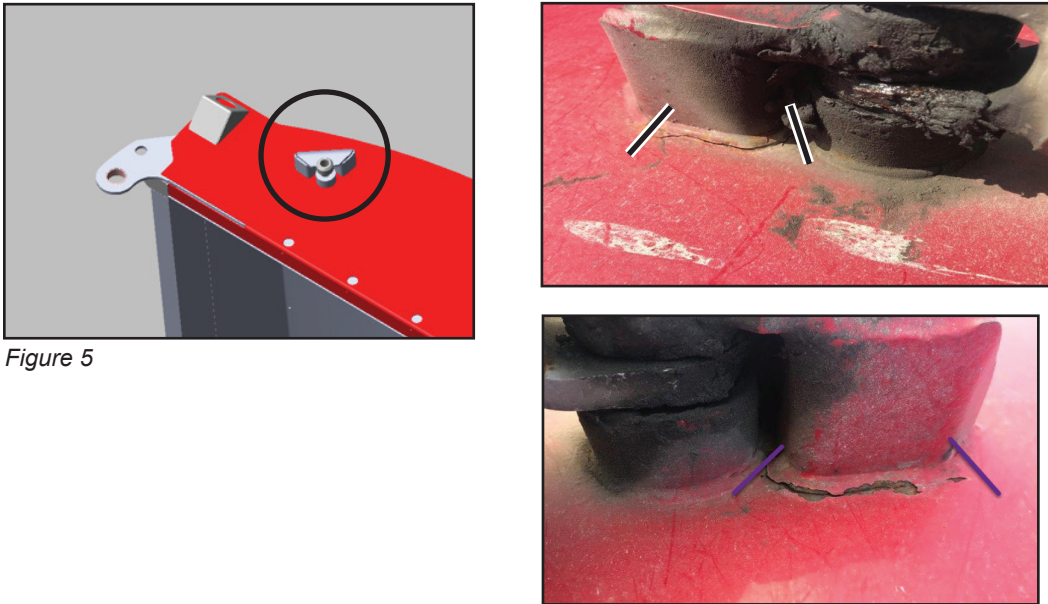

Figure 5
8. Fill hole and weld cracks or fatigue with silicone to prevent water intrusion (Figure 5).